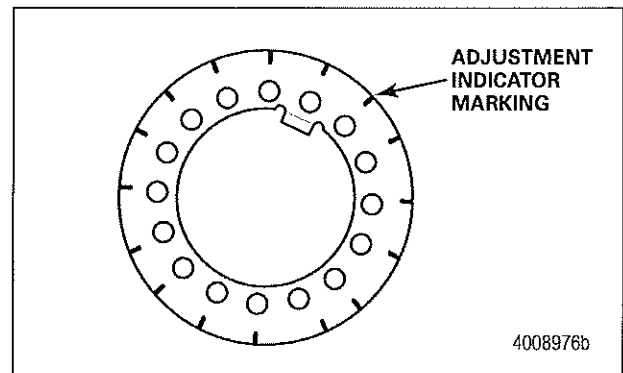

Figure 23
- A. Install the retaining washer into the hub. Ensure the adjustment indicator markings are facing outwards. Figure 23.